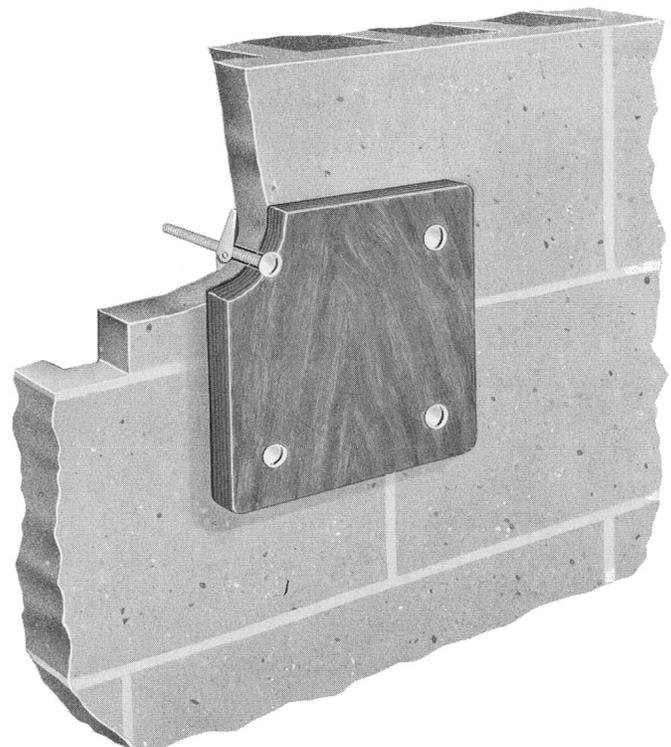

Fig. 12 – KS-5796, List 7 Backboard Mounted on Cinder Block
2.20 The KS-5796 type backboard is designed for use with either one, two, or three 105-type apparatus boxes when mounted on a vertical surface (see Fig. 12).